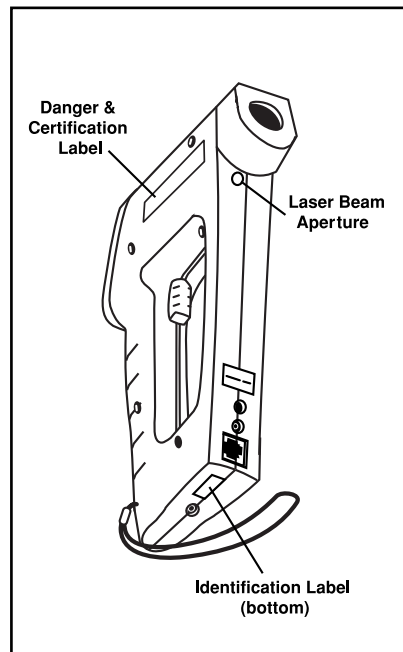
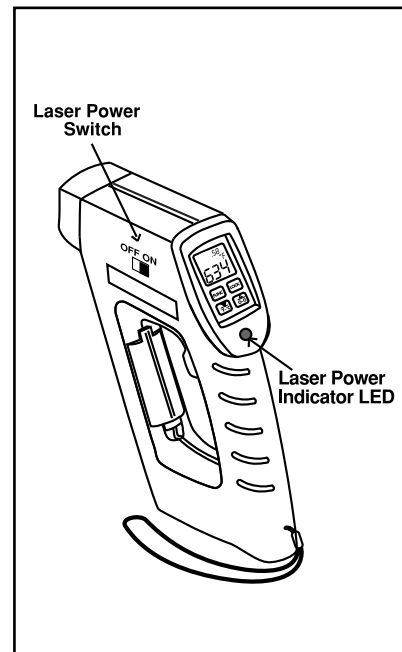

Figure 3-1. Rear View of the Thermometer
Figure 3-2. Front View of the Thermometer
Figures 3-1 and 3-2 show the rear and front view of the thermometer with the built-in laser sight module.
1. Set the laser power switch to the ON position as shown in Figure 3-2.
3. The laser beam and the red power indicator LED will turn on. Refer to Figure 3-1 and Figure 3-2.